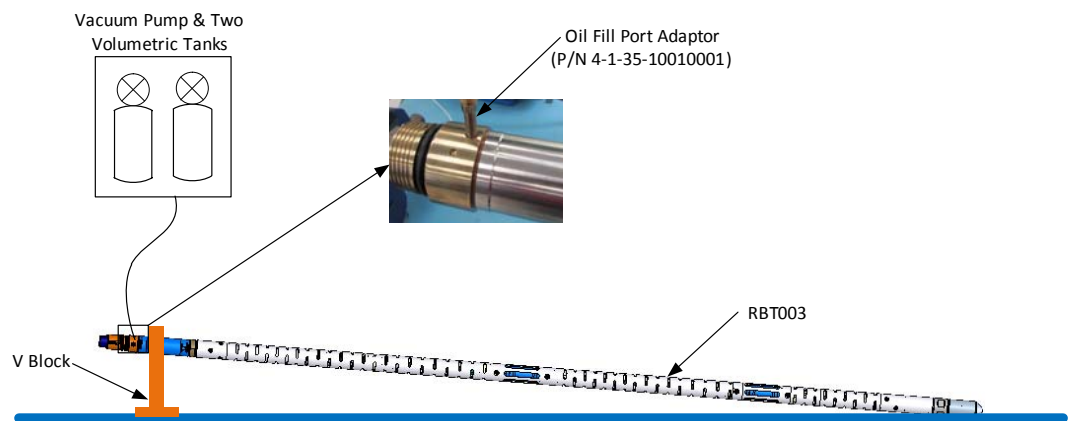

Figure 5-16 Vacuum/Oil Filling Set Up
- 1 Remove Screw (item 28) along with the O-Ring (item 44).
- 2 Prepare the RBT, vacuum set up and ancillary equipment as shown in Figure 5-16.
- i. Make sure the upper end of the Sonde Section is raised as shown in Figure 5-16. This will encourage the air to evacuate from the tool.
- ii. Connect the vacuum set up to the fill port via the Oil Fill Port Adaptor (P/N: 4-1-35-10010001), see Figure 5-16.
- 6 Add pressure to the oil tank. The Piston Can (item 4) will slowly move into its fully extended position and the Spring (item 22) will fully compress.